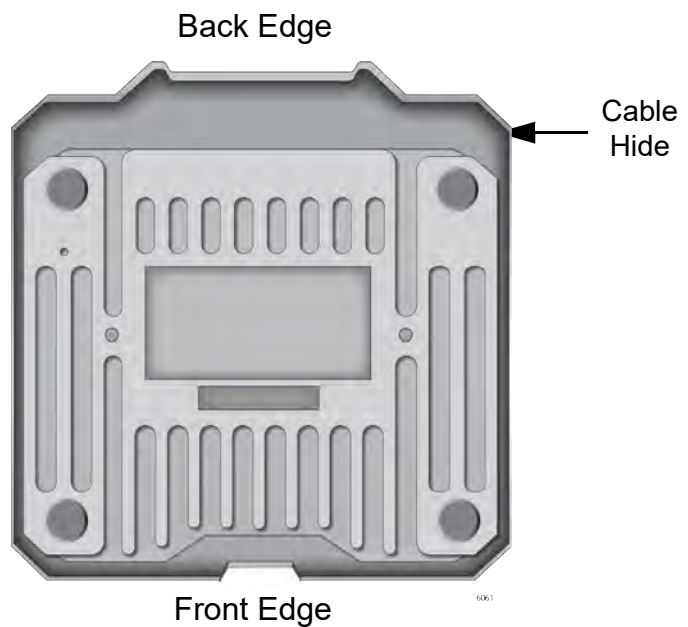

Figure 2. Access Point Bottom View
The bottom view is illustrated in Figure 2.
- Cable Hide** The top cover of the access point is larger than the access point chassis to create space on the back for cable connectors and cables shown in Figure 2 on page 21.